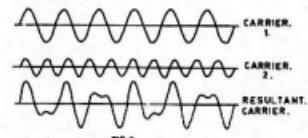

Fig. 7.—The combination of two carriers to form a resultant which is amplitude and phase-modulated.
Consider two carrier waves slightly different in amplitude and frequency. The resultant of these two waves is shown in Fig. 7. There are two types of variation in this signal as compared to carrier 1. They are: (1) amplitude, (2) phase.